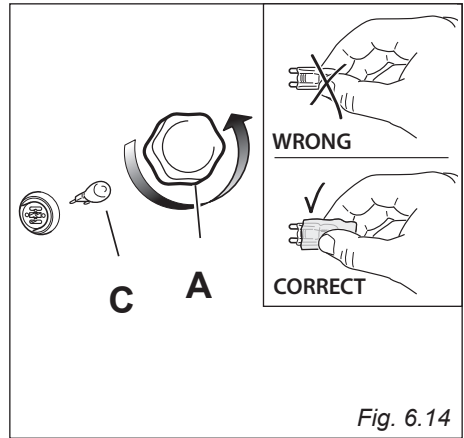

Fig. 6.14
- Remove the protective cover "A" (fig. 6.14).